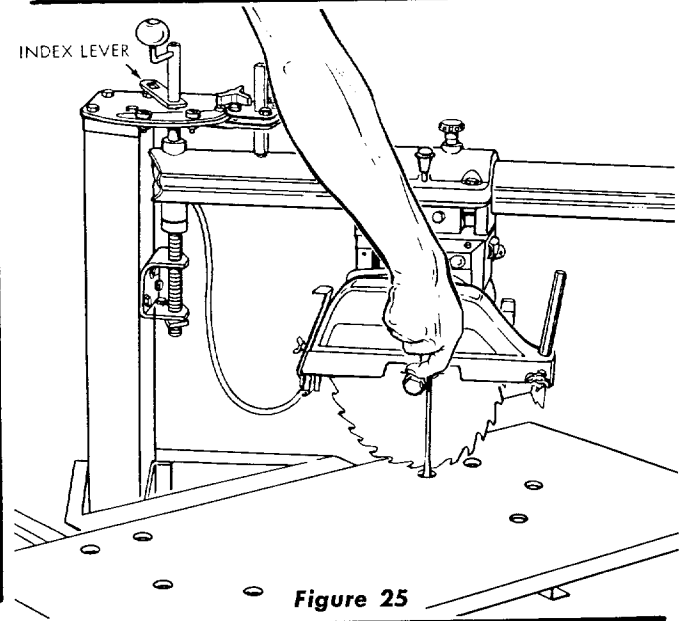

Figure 25
- g. Move the saw to a position adjacent to the right rear table screw (figure 25) and adjust as described in preceding instructions.